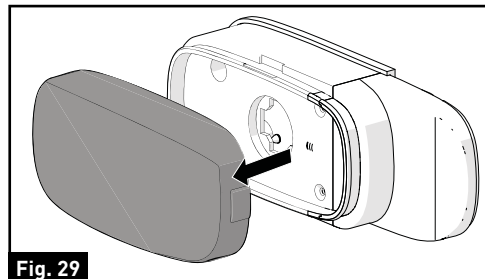

Fig. 29
2. Remove the lens cover by scratching the slot on the side of the traffic light. (Fig. 29)